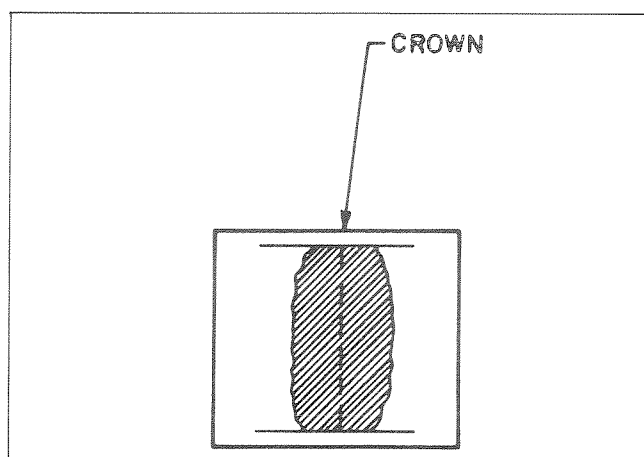

Figure 4-4. Ink Distribution on Head Surface
**STEP 7** Move the tape away from the head stack, and use the dry erase marker to ink the faces of the repro and record heads. Ensure that the marking is symmetrical with respect to the crown of each head, as illustrated in Figure 4-4.